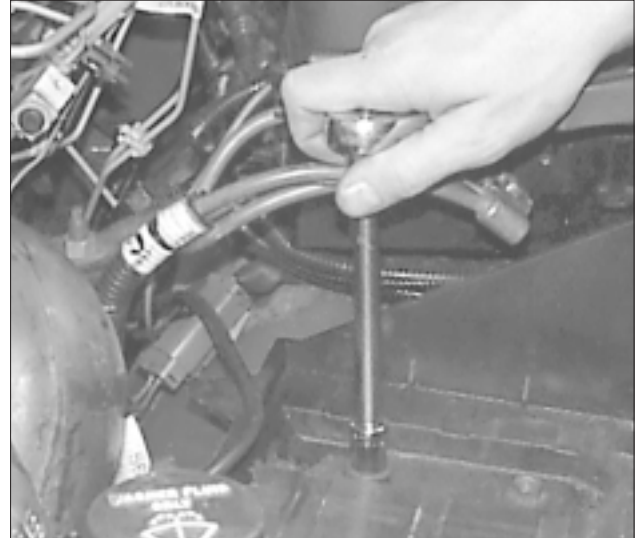

Fig 2-b
- E. Use a 10mm wrench and remove the cruise control actuator from the bottom of the battery tray. Later it will be modified and reinstalled. (See Fig. 2-c.).